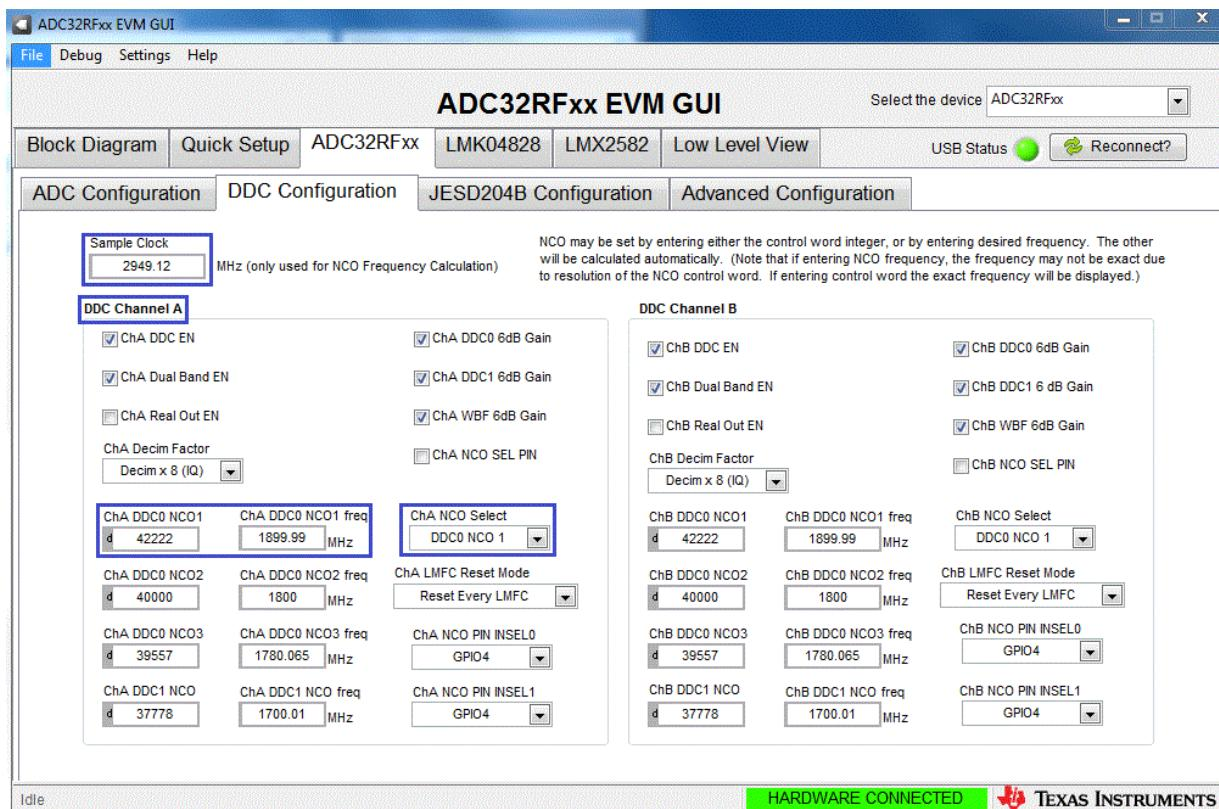

Figure 21. ADC32RFxx-EVM GUI DDC Configuration Tab
12. Enter "1900" in the box for the *Channel A DDC0 NCO1* frequency. The control value for NCO1 should become 42222 as shown in Figure 21